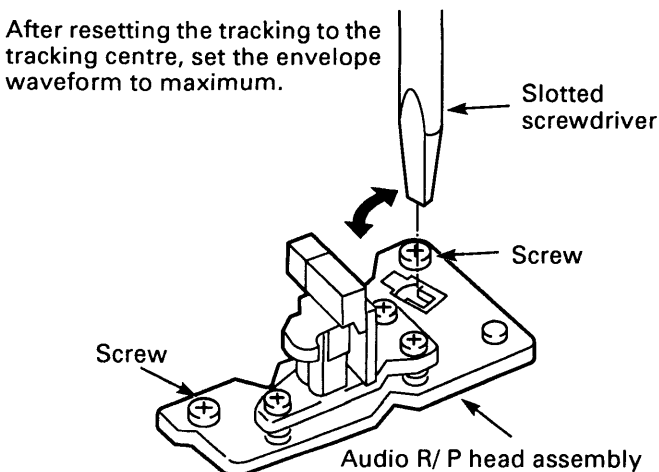

Fig.4-3-6
##### (2) Horizontal position adjustment (See Fig.4-3-6)